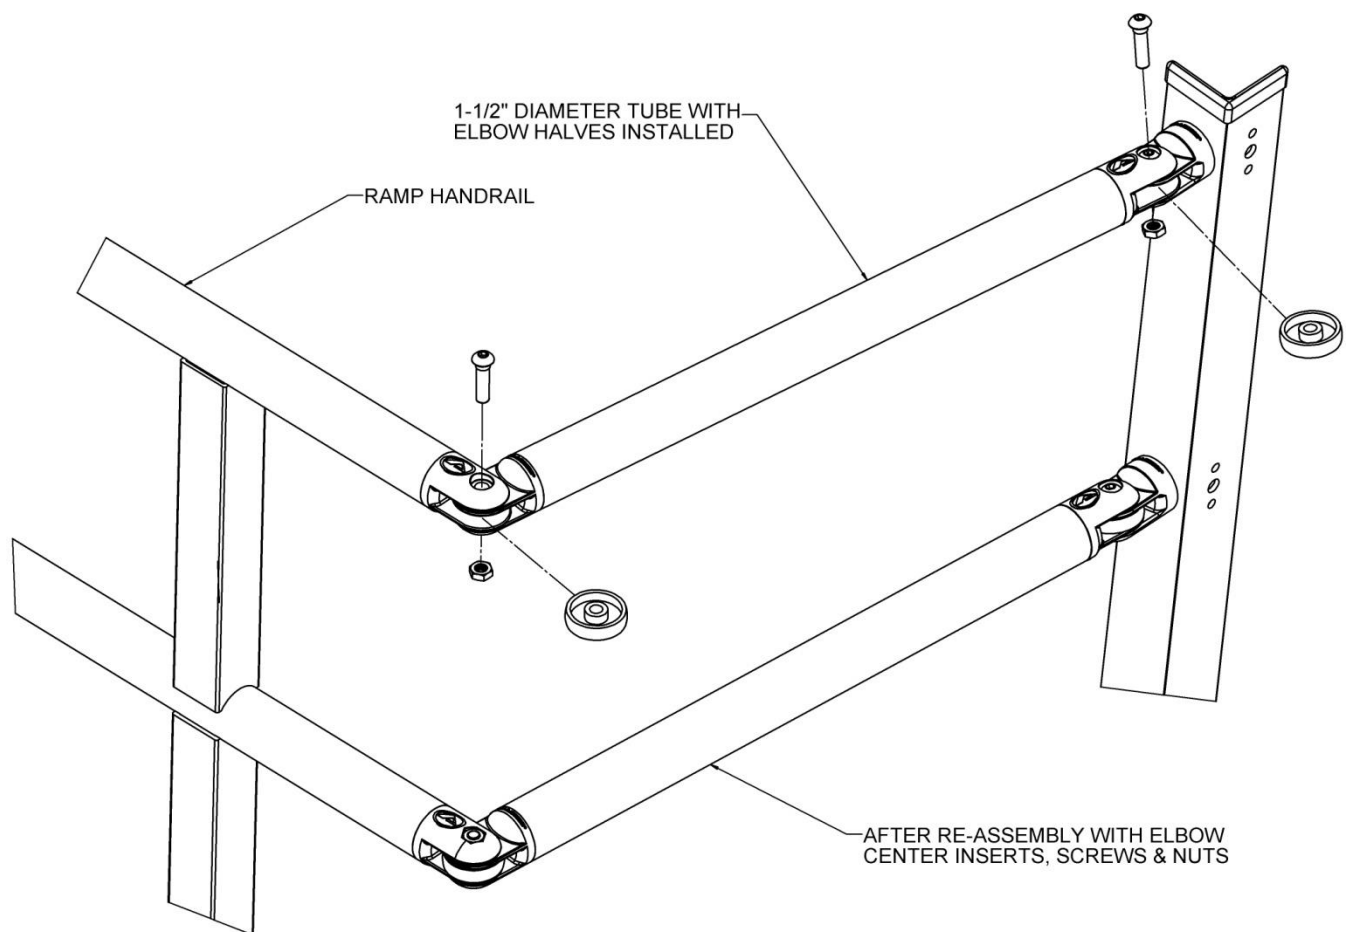

FIG. 6.12
- 6.2.11. Reassemble all elbows by replacing center insert and securing with the screw and nut, then securely tighten all fasteners, including the hex cap screws (FIG. 6.12).